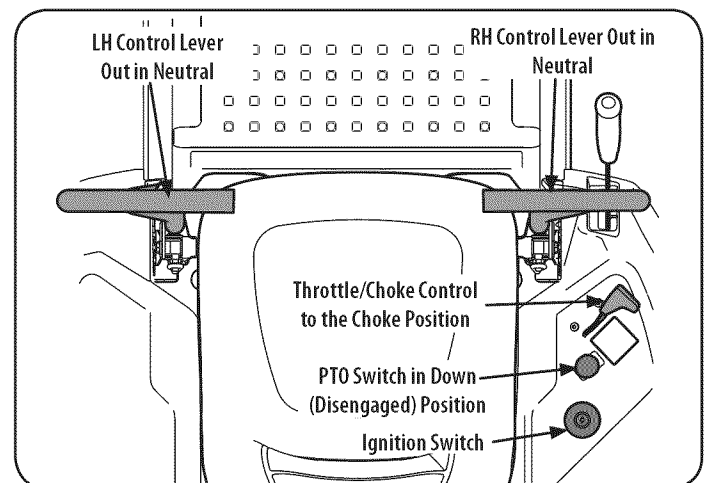

Figure 11
2. Make certain the PTO switch is in the disengaged (down) position. Refer to Figure 11.